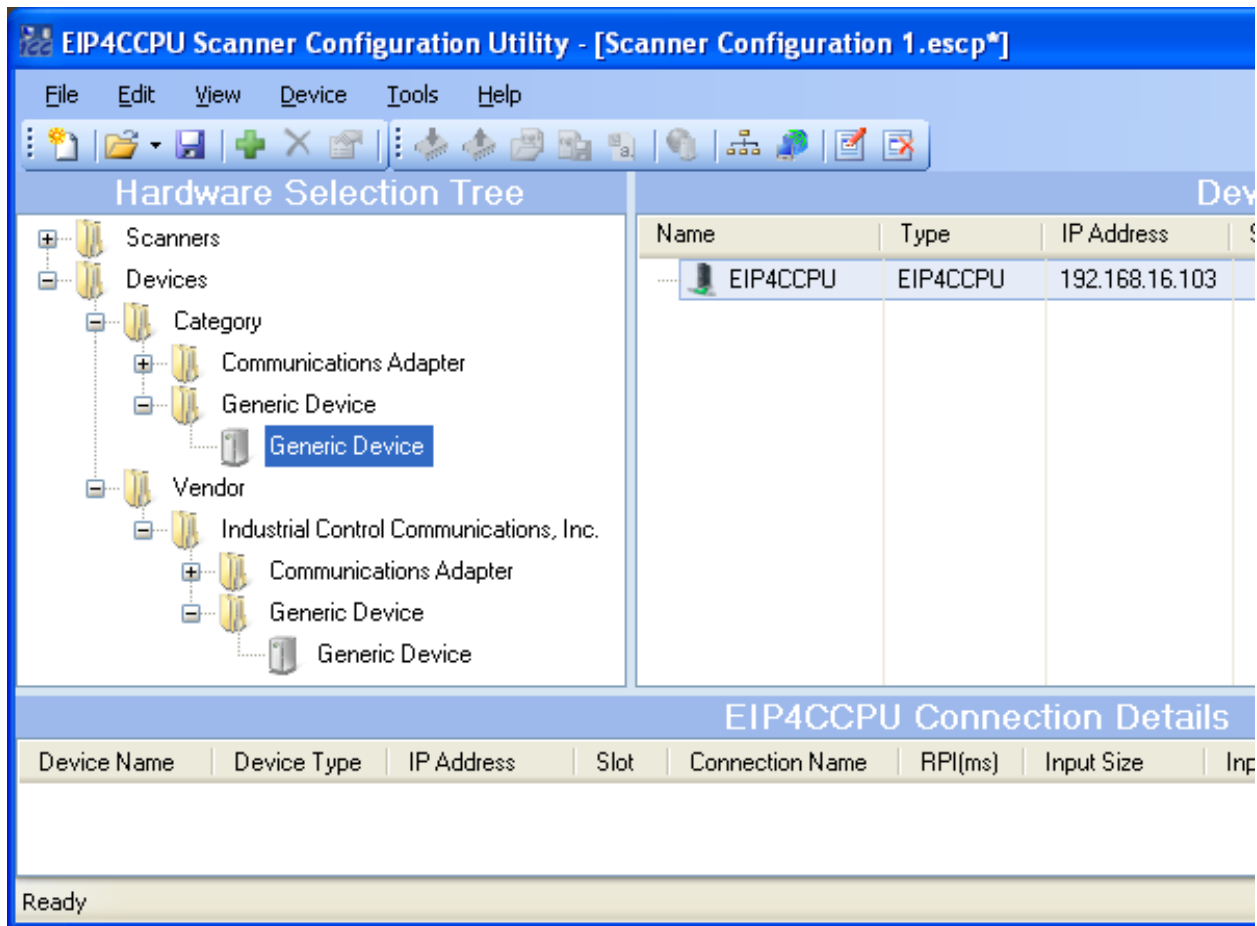

Figure 45: Generic Device in Hardware Selection Tree
2. Locate the Generic Device in the Hardware Selection Tree (Figure 45) and add the Generic Device to the scanner. Enter an IP address and click next.